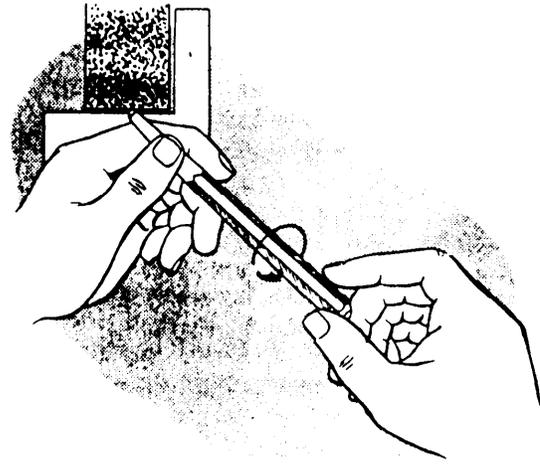

Figure 5-25.—Grinding a center punch with a bench grinder.
• **Center punches:** To sharpen a center punch, rest your hand on the tool rest of the grinder and cradle the end of the punch between the index finger and thumb of one hand, as shown in figure 5-25. Move the punch into light contact with the rotating grinder wheel, with the center line of the punch forming about a 45° angle with the face of the wheel. This will give the approximate 90° included angle required for a center punch. With the thumb and index finger of the other hand, rotate the punch as shown by the directional arrow in figure 5-25. Dip the punch in coolant frequently during the process.